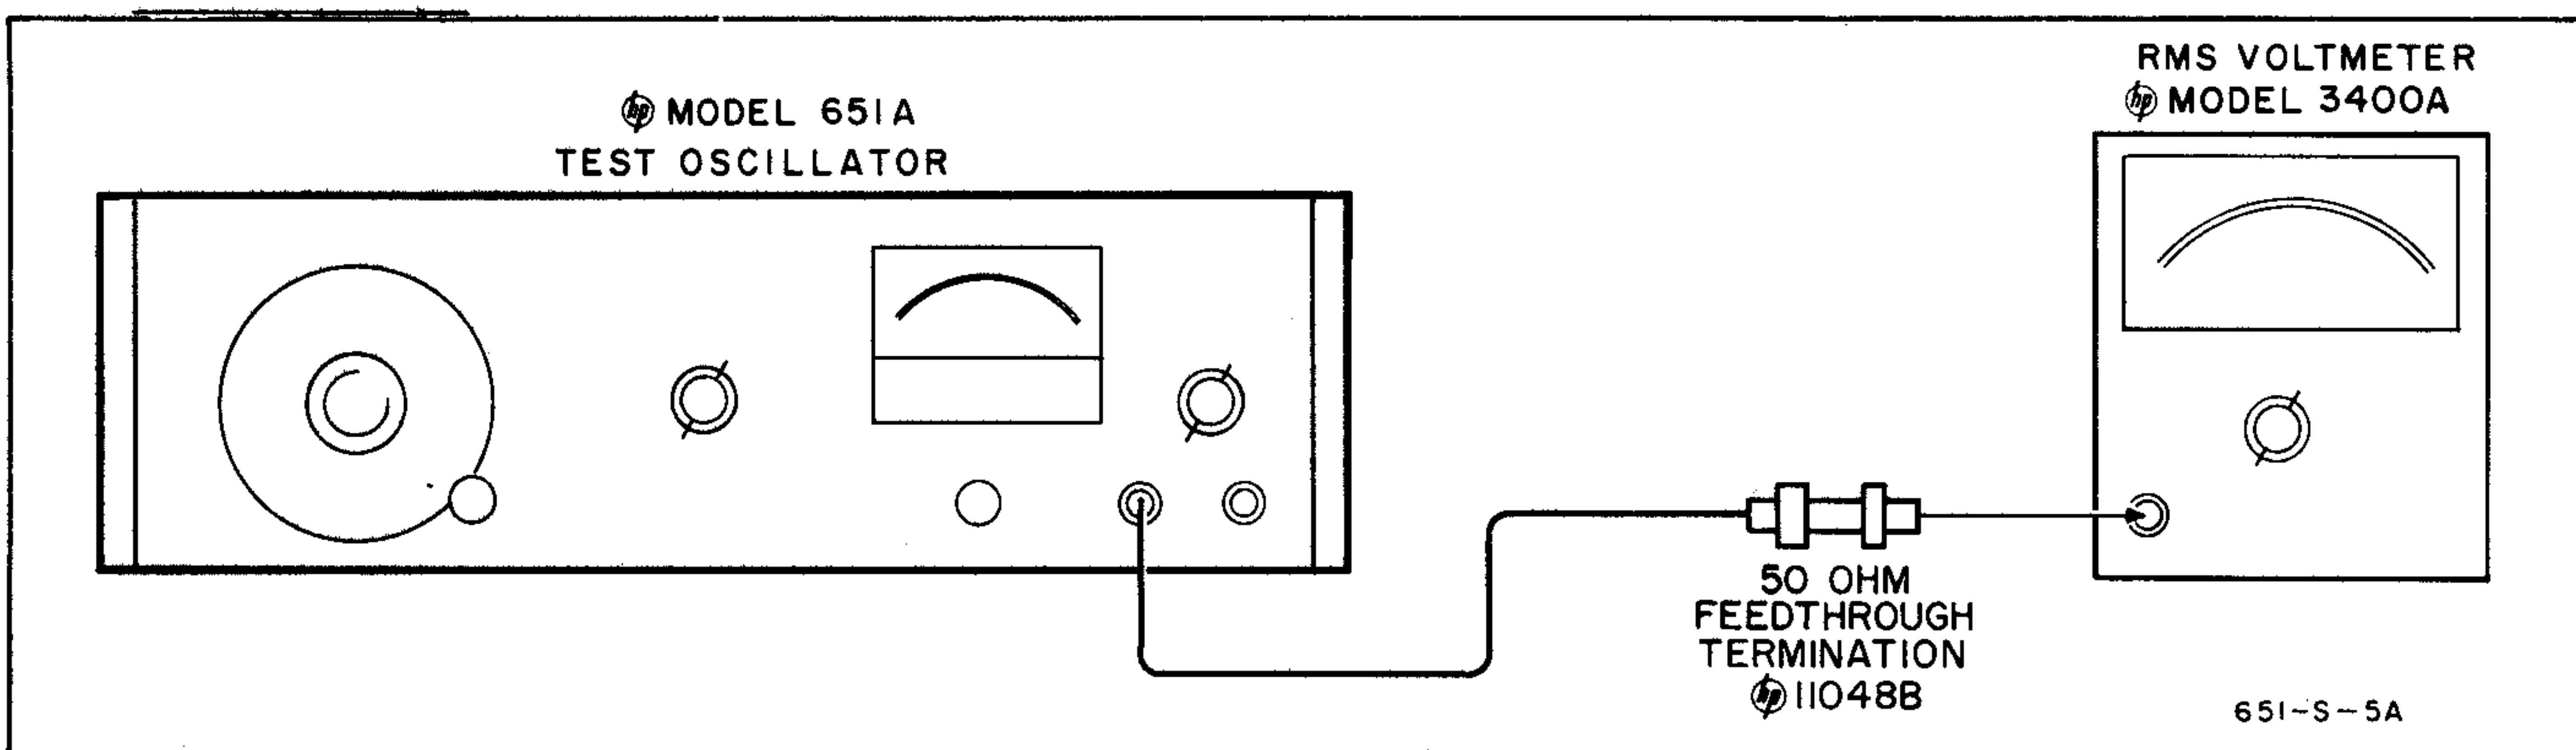

Figure 5-2. Output Meter, Amplitude Control, Output Voltage, and Hum and Noise Check
- a. Connect Model 651A as shown in Figure 5-2.